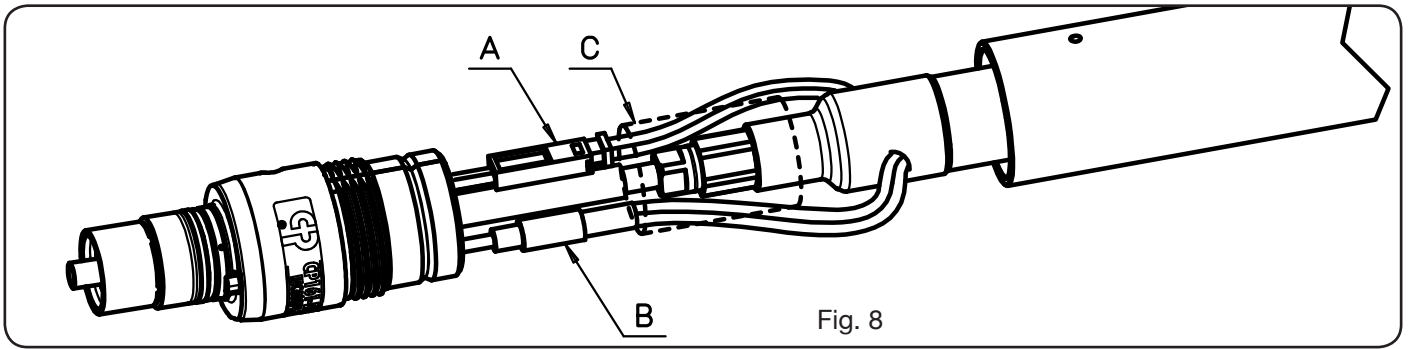

Fig. 8
- Unscrew the retention dowel **G** and then handle **M**, pull it back until all cables are shown (see Fig. 8);